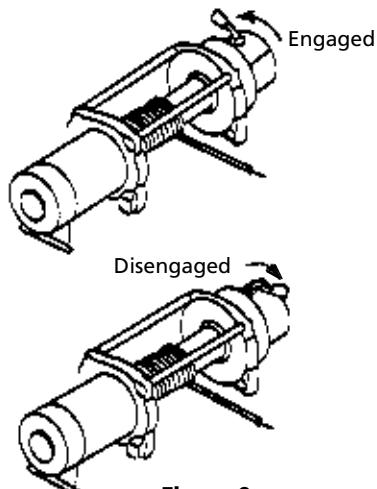

Figure 9
(See Figure 9) Set the freespool clutch knob to the "Disengaged" position. If there is a load on the wire rope the clutch knob may not move easily. DO NOT FORCE THE CLUTCH KNOB. Release tension on the clutch by jogging out some of the wire rope. Pull several feet of wire rope off the drum. Return the clutch knob back to, "Engaged" position. Activate the winch in Cable Out momentarily to check drum rotation direction. If the drum rotates in the wrong direction, recheck your wiring. Release the clutch and pull out the wire rope and secure to anchor or load. Check that there are least five (5) turns of wire rope left on the drum. Re-engage the drum by returning the clutch knob to the "Engaged" position.